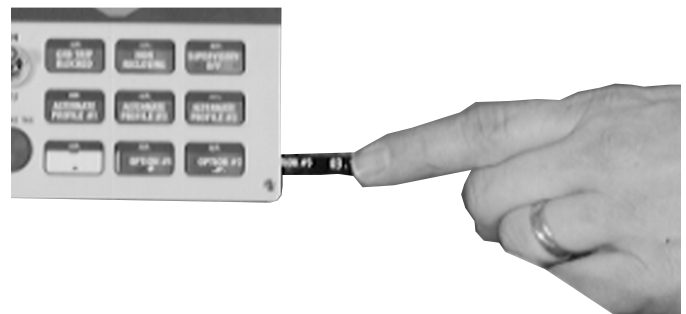

Figure 28. Labels (OPTION 1, OPTION 2, and OPTION 3) are easily removed from and inserted into the operating panel. 000008KM
- Note:** The insert will slide out of the right side of the operating panel (Figure 28).
6. Gently push the removable insert from right to left into the right side of the operating panel (Figure 28) or down into the programming panel LED indicator section (Figure 27).